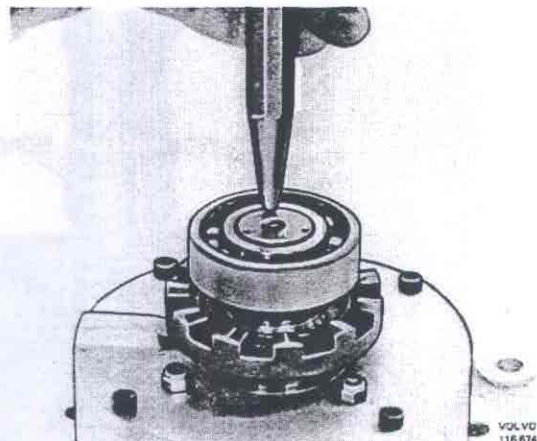

Fig. 48-27. Penning the bearing
10. Press on the support bearing andpeen it with three punch pops, see Fig. 48-27.